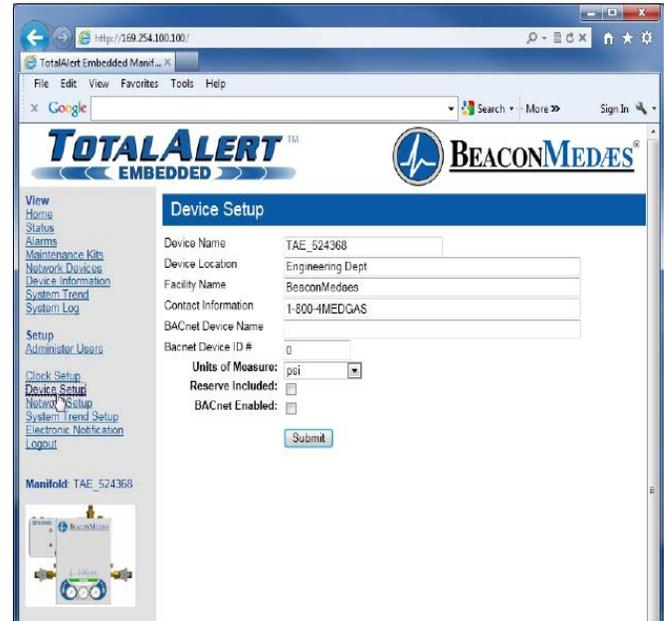

Figure 32: Device Setup
This Device Setup page (Figure 32) is used to configure the manifold name, location, facility name, and contact information.
4. The left sidebar will now contain the setup links (Figure 32).